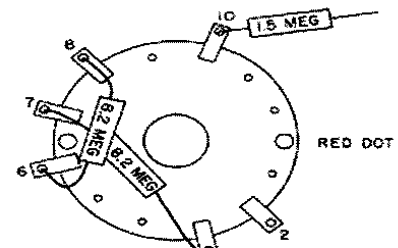

Figure 17 - Placement of parts on the front of deck C.
The first wiring on deck C will consist of installing two resistors on the front of deck C. Refer to Fig. 17 for the placement of these resistors.
- ( ) Connect one lead of an 8.2-megohm, 1% resistor to terminal 3 on the front of deck C. Connect the other lead to terminal 7 on the front of deck C. See Fig. 17 for placement of the resistor. Cut off the excess wire. Solder terminals 3 and 7.
- ( ) Connect one lead of an 8.2-megohm, 1% resistor to terminal 6 on the front of deck C. Connect the other lead to terminal 8. Position the resistor as shown in Fig. 17. Solder terminals 6 and 8 on the front of deck C.